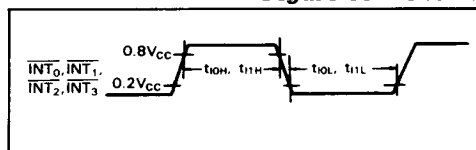

Figure 54. Interrupt Timing
- See figure 54. Unit t_{cyc} is applied when MCU is Standby or Active mode.
- See figure 54. Unit t_{SUBcyc} is applied when MCU is in Watch or Sub-Active mode.